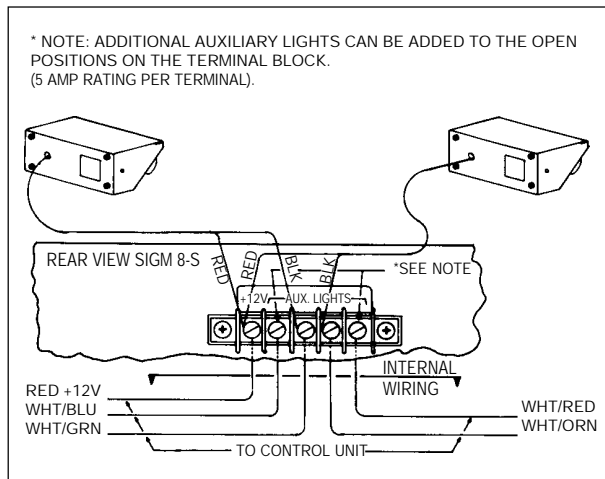

Figure 4.
d. If applicable, connect the SIGM1 or SIGM2 cable to the terminal block on the back of the SIGM8-S as shown in figures 4 and 5.
1. When this switch is pressed, external lamps (such as the Federal Signal SIGM1 or SIGM2) alternately flash at a constant rate. The wiring configuration of the SIGM8-S and the SIGM2 determines the flash combination of the external lamps (see figures 4 and 5). The slide switch will override the external lamp pattern when the **AUX** switch is depressed, but will not override the **AUX OUT** terminal output.